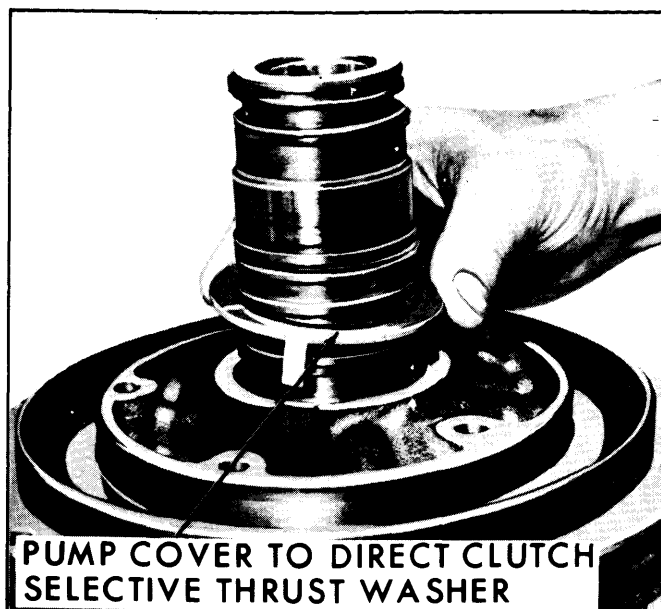

Fig. 7-97—Pump Cover to Direct Clutch Selective Thrust Washer
a. Install selective fit thrust washer (Fig. 7-97) oil pump gasket and using guide studs from J-3387 set, install oil pump. Install two pump to case bolts.